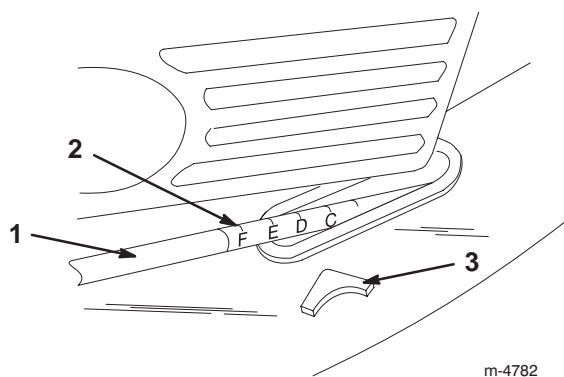

Figure 14
5. Lift up or press down on the handle, and use the pointer and the cutting height setting on the link rod to set the lawn mower to the desired cutting height (Fig. 14).